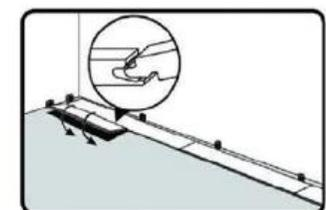

Figure 4
4. Cut a plank in half of the length to start the second row, stagger the end seam at least 6" from the first plank. Install the first plank in the second row by inserting the long side tongue into the groove of the plank in the first row. This is best done with angel of (20° to 30° degrees) of the plank (Figure 4)